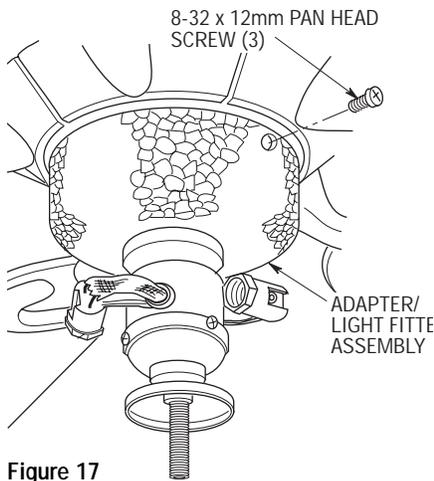

Figure 17
- 9. Position the adapter/light fitter assembly over the adapter plate and secure using three 8-32 x 12mm pan head screws (Figure 17).